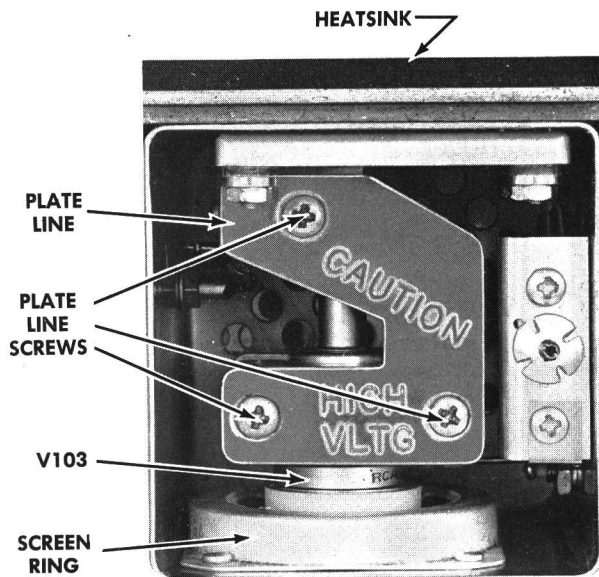

Figure 4 - PA Plate Box With Cover Removed
2. Remove the top cover on the AMPL PLATE box (fig. 4). Allow the transmitter to cool if necessary.